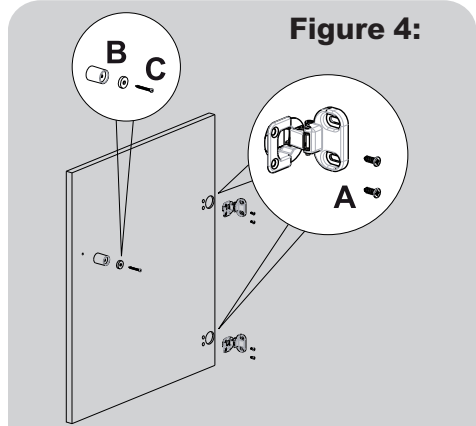

Figure 4:
- Fix the hinges in place (on the door) with the 4 screws provided (A) (**figure 4**).
- Fix the magnet (B) in place using screw (C) (**figure 4**).